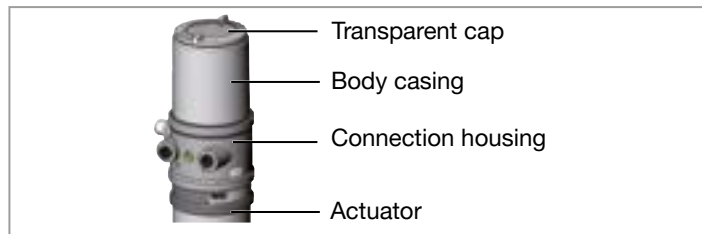

Fig. 13: Open control head
- ▶ When unscrewing and screwing in the transparent cap, do not hold the actuator of the process valve but the connection housing (see “Fig. 13: Open control head”).